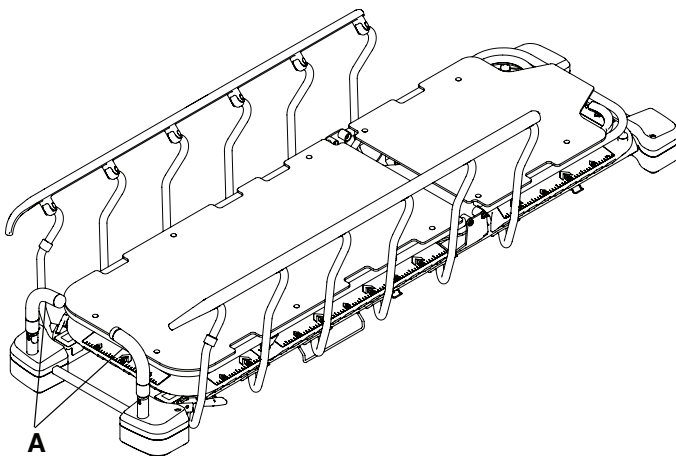

Figure 9 – Positioning the foot end push handles
1. Pull straight up on the foot end push handles (A) one at a time (Figure 9).
2. Pivot the foot end push handles (A) to the use position.